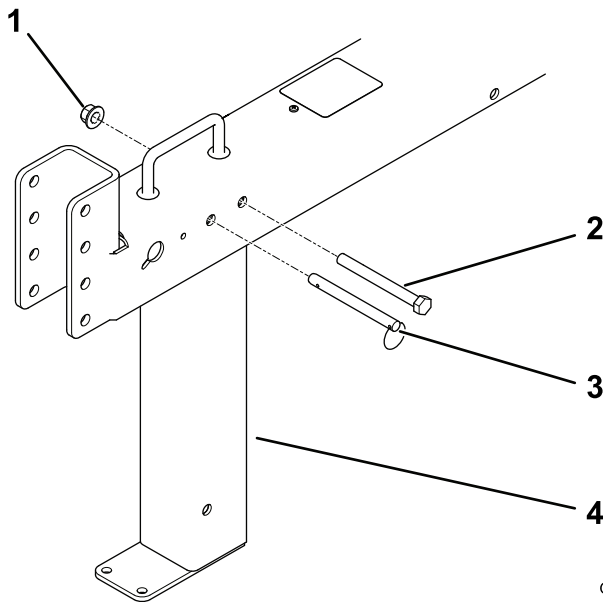

Figure 4
- Align the top rear hole in the front stabilizer leg (Figure 4) to the rearmost hole near the handle at the front of the tow pole.
- Install the long bolt through the holes, and secure it with a locknut torqued to 102 N-m (75 ft-lb); refer to Figure 4.
- Insert the clevis pin (Figure 4) to lock the front stabilizer leg in position.